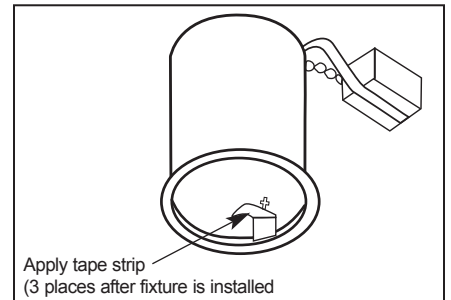

Figure 6
Step 5. Apply a tape strip over each of the mounting slots. Cover the slots completely with the tape strips. USE THE SUPPLIED STRIPS. DO NOT SUBSTITUTE DUCT TAPE TO SEAL THE SLOTS (Fig. 6).